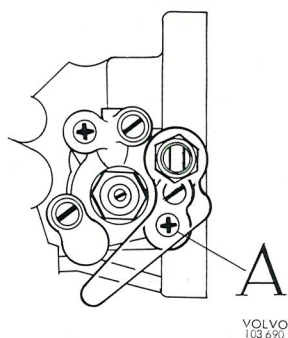

Fig. 2-104. Removing the screw
N.B. After the valve has been fitted on the carburettor, remove the screw (A, Fig. 2-104) on the by-pass valve. If the screw is not removed and it loosens, it will jam the cam so that the throttle cannot be closed. The only purpose the screw has is to keep the by-pass valve components together before being fitted on the carburettor.